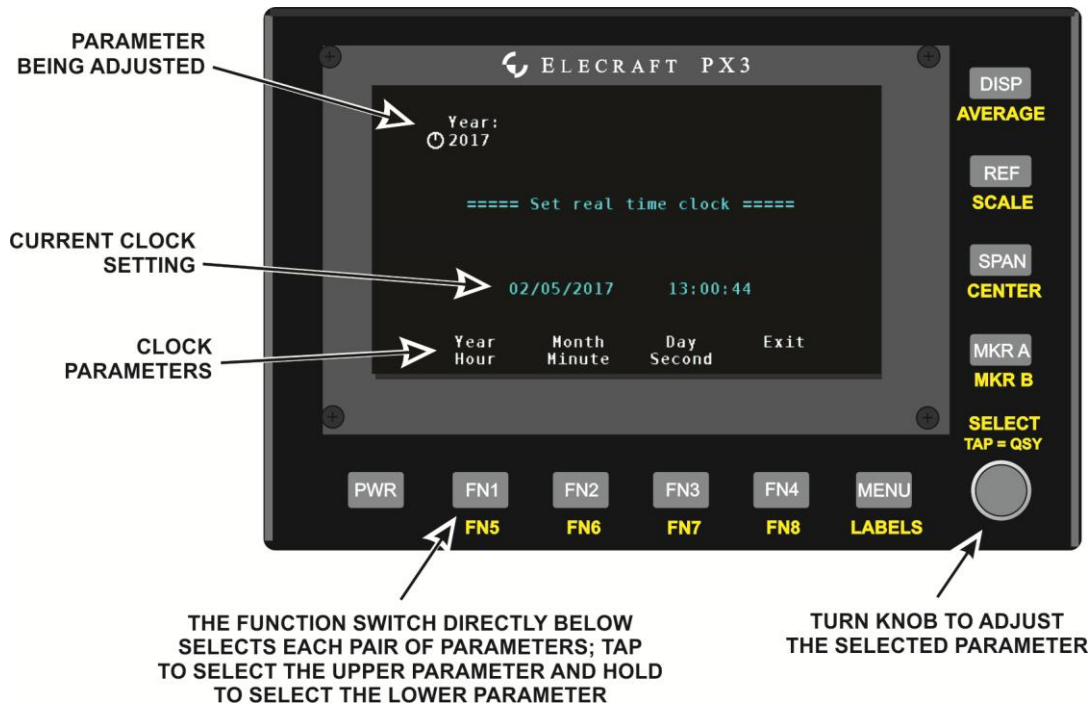

Figure 19. Setting PX3 Date and Time.
- Tap the ⌚ SELECT knob and enter the current date and time as shown in Figure 19 below: